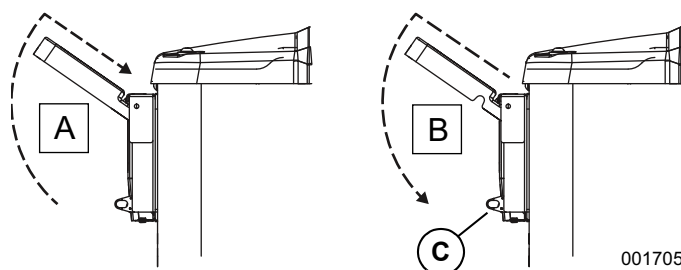

Figure 3-1. Open and Close Controller Lid
1. See view "A" in **Figure 3-1**. Lift lid from bottom to open. Lid will lock in place when raised.
2. See view "B" in **Figure 3-1**. Pull raised lid up and out slightly to unlock, then lower to close.
NOTE: Local codes may require this compartment to be locked. A hasp is provided so the owner/operator can secure the compartment with a padlock (C in **Figure 3-1**). Check local codes for side compartment locking requirements.